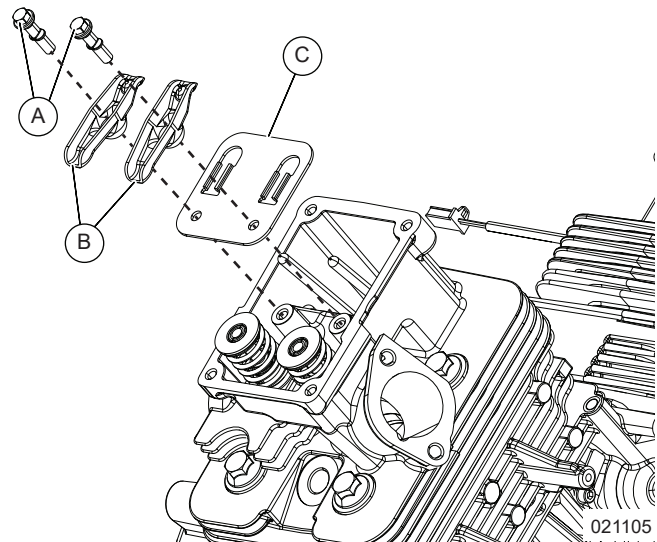

Figure 6-27. Remove Rocker Arms
- See Figure 6-27. Remove rocker arm pivot studs (A), rocker arms (B), and pushrod guide plate (C) from cylinder head.